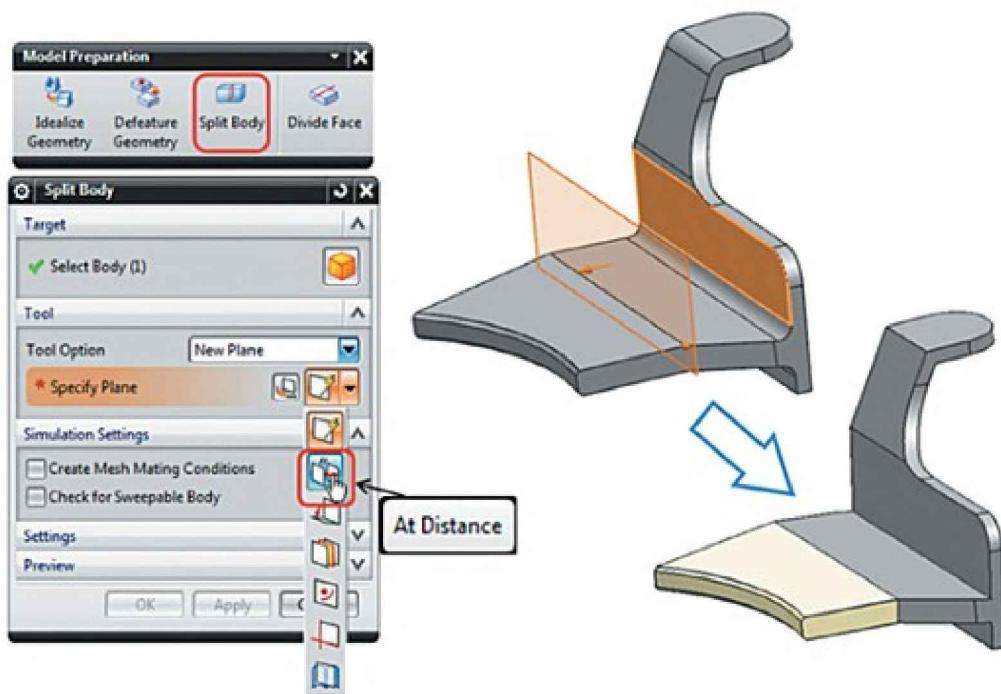

Figure 2.16. Split Body command, Tool Options, New Plane
In the **Split Body** dialog box (Figure 2.16), do the following:
- Specify a vertical face as shown in Figure 2.16. The selected face is highlighted, and a blue arrow appears, pointing along the normal vector of the selected face, as well as a distance indicator.
- Hold the left mouse button on the blue arrow and drag the new plane to extend it to the end point of the edge as shown in Figure 2.16.